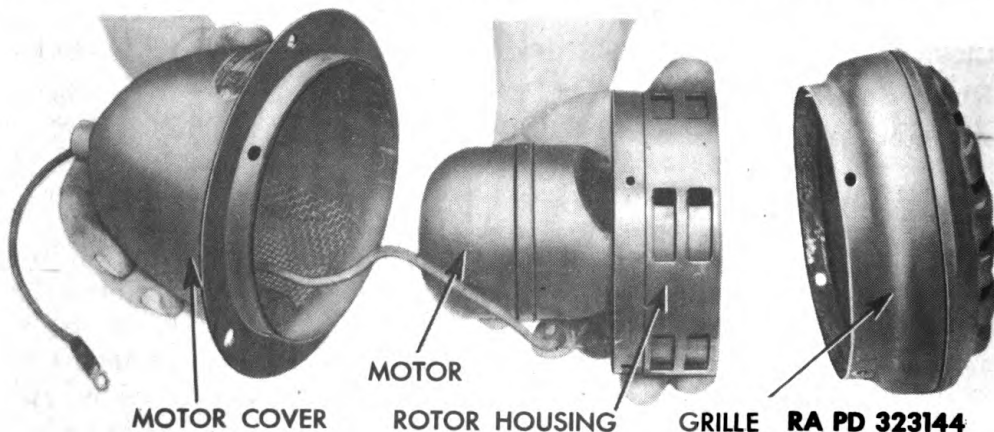

Figure 145 — Removing Rotor Cover from Rotor Housing
a. **Remove Grille and Siren Motor Cover (fig. 145).** Remove four round-head screws and lock washers from around the grille and cover. Pull grille off motor cover. Grasp siren rotor housing in one hand, and pull motor cover off with the other hand, being careful not to damage cable when pulling it through bushing in cover.
- d. **Install Siren Motor Cover and Grille** (fig. 145). Run cable through bushing in motor cover and slip the cover onto the rotor housing, making sure to line up the screw holes. Place grille over motor cover, and install four round-head screws and lock washers.